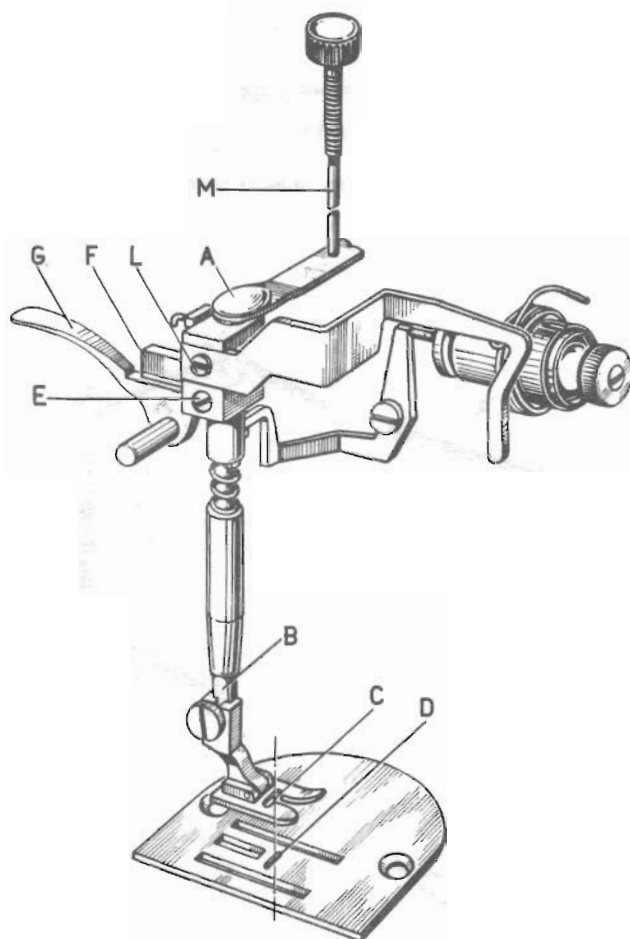

Fig. 17
The main operations to be effected on the presser bar are the following: (Fig.17)
When the presser foot is raised, there should be a space of 8 mm. between the base of the presser foot and the needle plate (Fig.17).
- dismantle the thread hook (Fig. 17) by removing the fastening screw L,
- Remove, unscrewing it, the knob M (Fig.17) and take off the presser spring A,